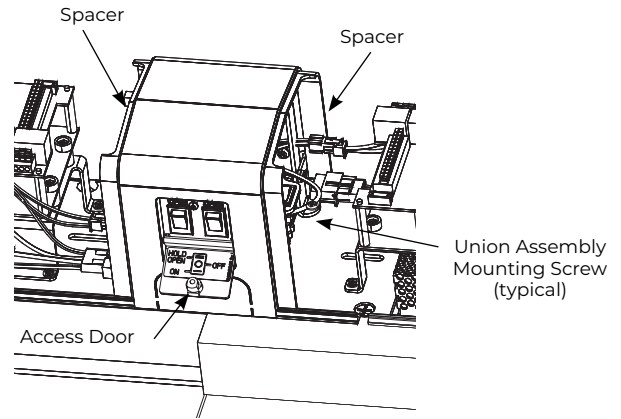

Figure 18 Union Assembly - View From Floor
3. Connect 4-pin black square connector from power module sub-assembly to 4-pin black connector from union assembly for each operator. (Figure 18)